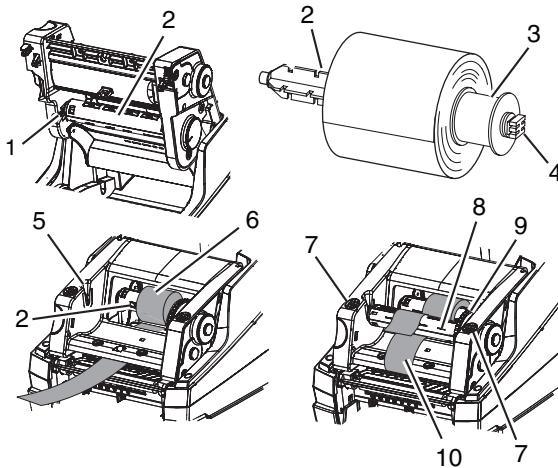

Figure 18, Loading the Ribbon
2. Push the old ribbon spindle (**Figure 18, 2**) slightly to the right to release tension on the spindle and pull the left side of the spindle (**Figure 18, 1**) toward you. Discard used ribbon.
4. Thread the ribbon end forward, under the printhead and back over the printhead (**Figure 18, 10**) to the ribbon take-up spindle (**Figure 18, 8**).
6. Turn the adjustment wheel (**Figure 18, 9**) a few complete revolutions, to ensure that the ribbon will not pull out from under the ribbon hold-down tab. The ribbon should now be snug and smoothed out against the printhead.
8. Apply thumb pressure to the close points (**Figure 18, 7**) on both sides of the print module until it latches securely in place. Once the print module is latched in place, raise the front panel and snap it into the closed position.